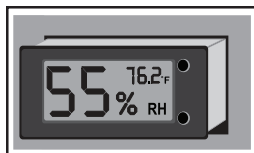

Figure 7.1
1. Remove the LCD display from the safe by lifting the edges and pulling forward and out (Figure 7.1).